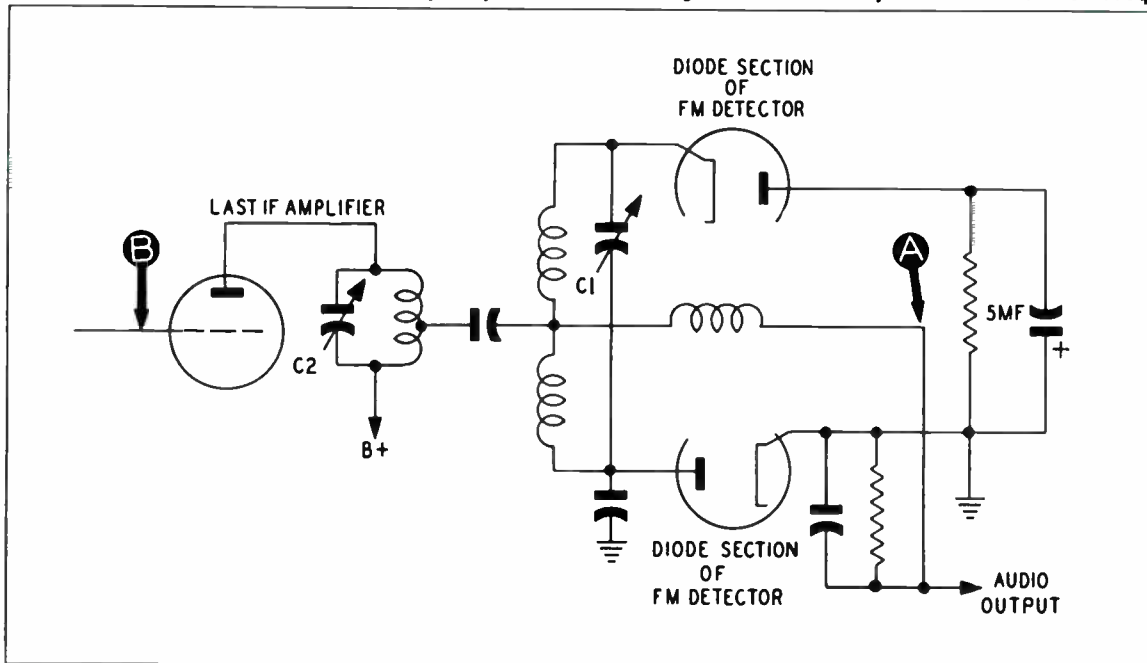

Figure 10. — Ratio Detector Schematic
1. Referring to figure 10, connect the output cable of Model 7008 between test point B and ground; connect oscilloscope input through the scope input leads between test point A and ground.